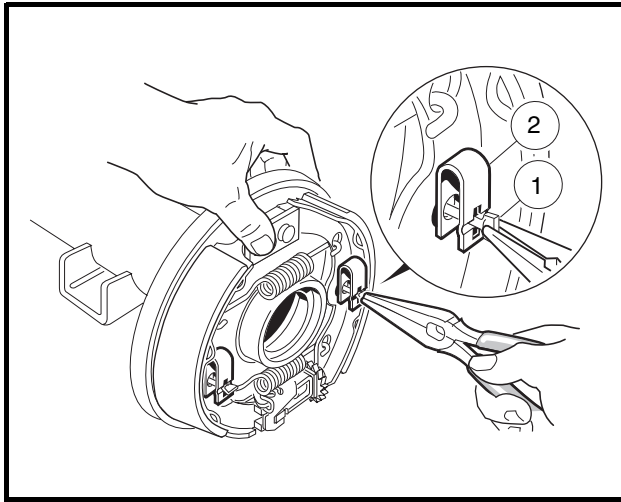

Figure 6-5 Remove Shoe Retainer Clip
7. Using needle nose pliers, turn the clip retainer pin (1) 90° to remove the shoe retainer clip (2) (Figure 6-5, Page 6-4). See following CAUTION.